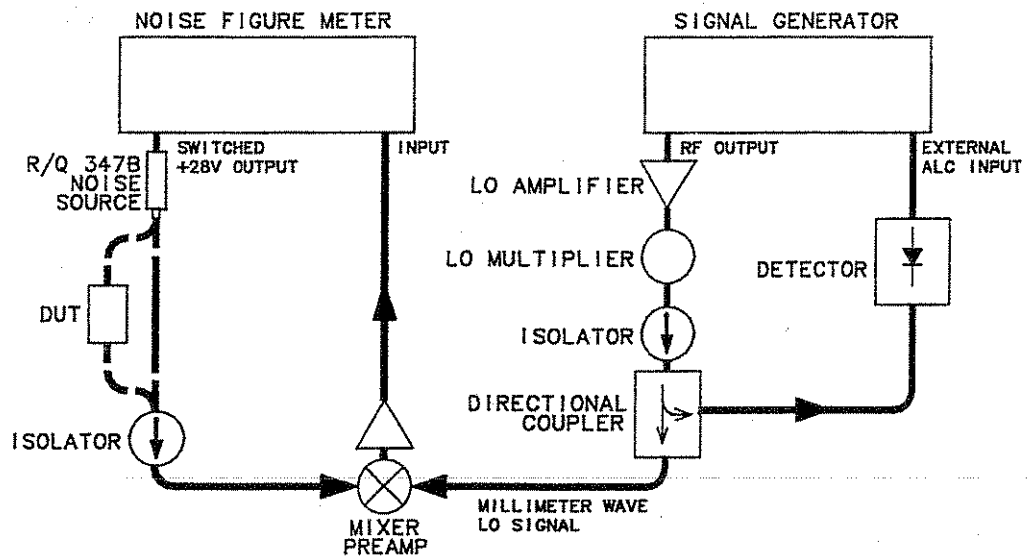
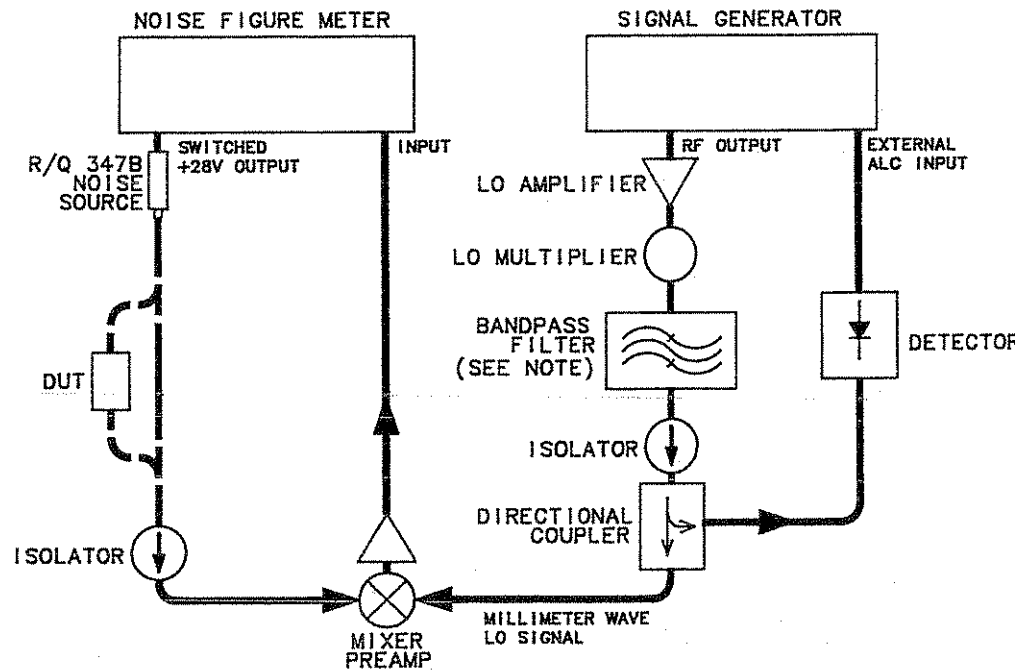

Figure 2. Noise Source Functional Test Setup
Figure 3. Noise Figure Measurement Setup
Noise figure measurements of devices (such as amplifiers, mixers, transistors, and receivers) can be made using the Noise Source with a noise figure meter. Figure 3 depicts a simple test setup for a noise figure measurement. Figure 2 is a similar setup to verify the Noise Source is operational. Note that the noise figure meter must have a $+28 \pm 1\text{V}$ switched output.
Connect the equipment as shown in Figure 2 and follow this procedure:
1. Connect the equipment as shown in Figure 3 with the device under test (DUT) removed. Most of this equipment is described in Table 3.